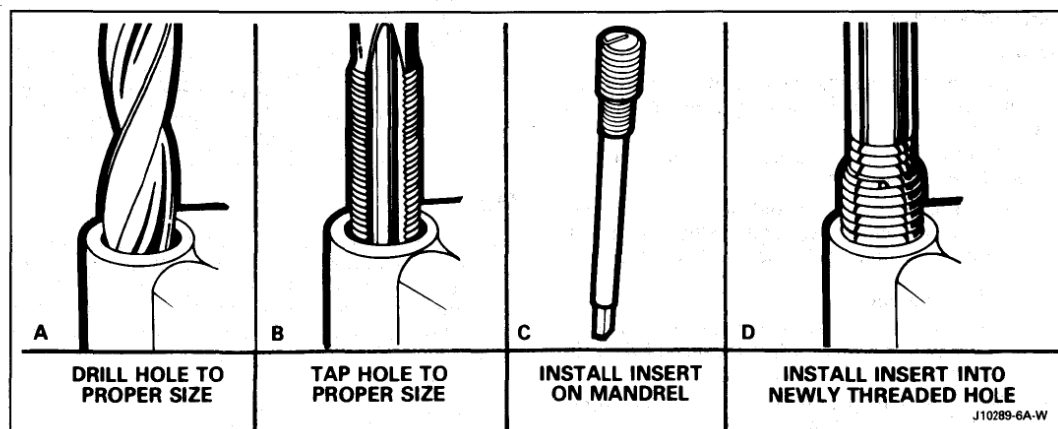

Figure 31 Repairing Threaded Holes
THREAD REPAIR**Figure 31**
2. Drill out damaged thread. Clean out chips. Refer to Figure 31-A.
3. Tap hole. Lubricate tap with light engine oil. Clean the thread. Refer to Figure 31-B.
4. Thread the thread insert onto the mandrel of the installer (Figure 31-C). Engage the tang of the insert onto the end of the mandrel.
5. Lubricate the insert with light engine oil (except when installing in aluminum) and install. Refer to Figure 31-D.